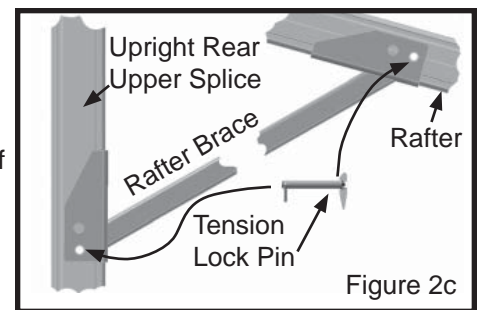

Figure 2c
- On frames with 20' projection or more, rafter brace is now attached to triangle. Rafter Brace will only fit one way- so if you are having trouble with alignment, turn the brace around so that the opposite ends are now at the rafter and upright rear upper splice. (See Figure 2c)